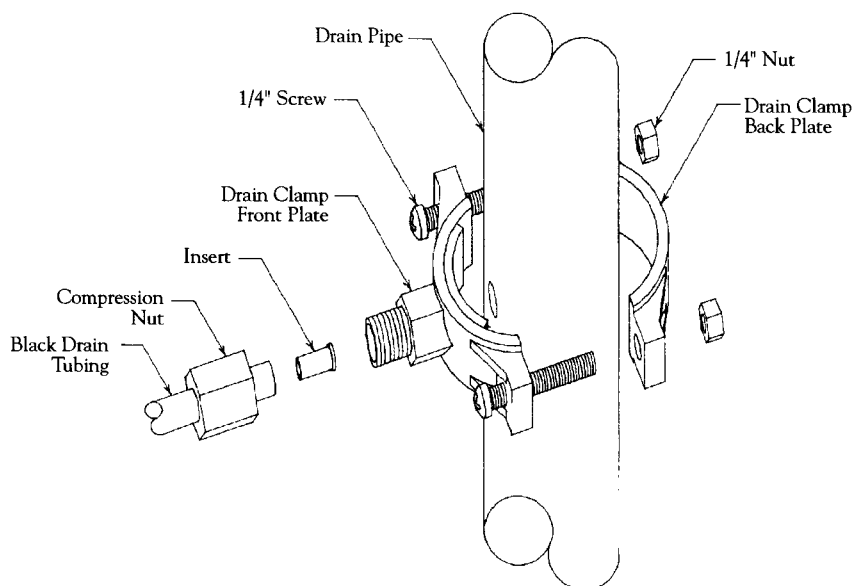

Figure 4
- Refer to Fig. 4, page 7. To connect the Drain Tubing, install the Compression Nut and the Brass Insert.